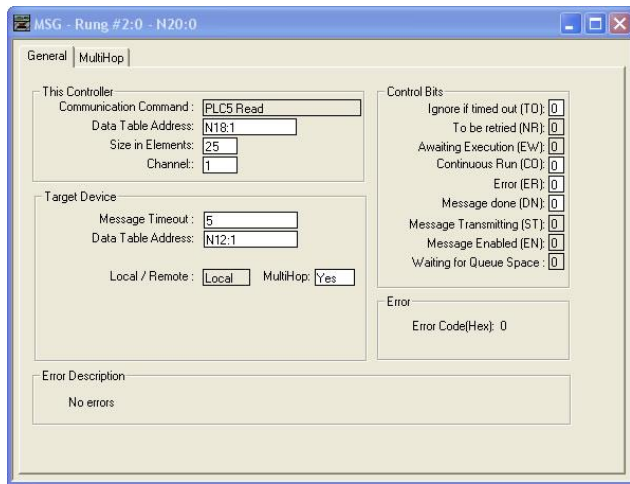

Figure 54: MSG Configuration, "General" Tab
- b) Upon hitting the <ENTER> key while in the “Control Block” entry box, the MSG Properties dialog box should appear (or it can be opened by clicking on the “Setup Screen” button at the bottom of the MSG instruction). Refer to Figure 54.